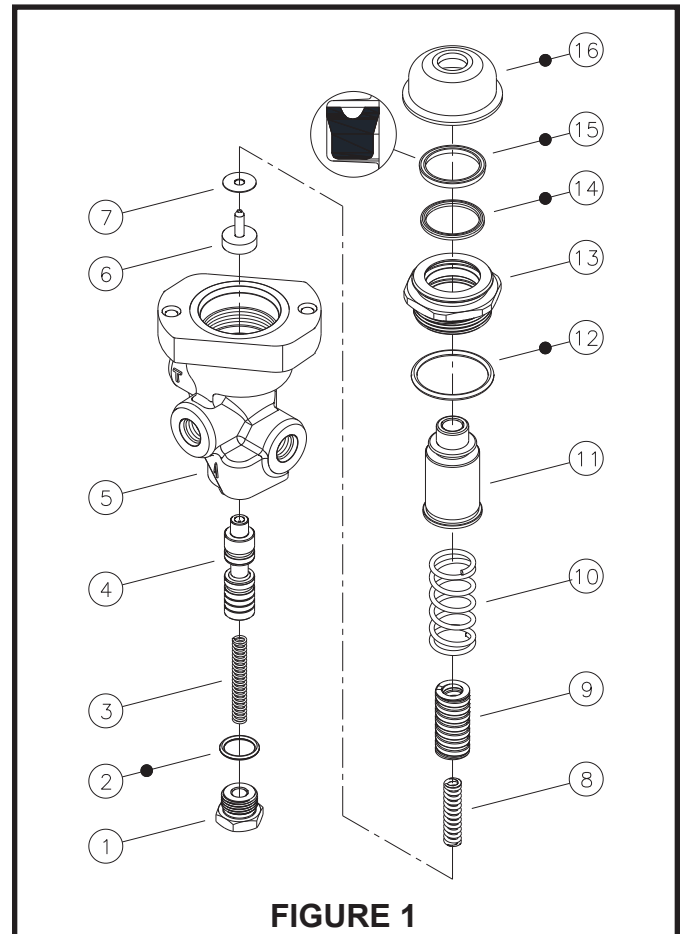

FIGURE 1
(Refer to Figure 1)
Housing (5) and spool (4) are manufactured as a matched set. This set, housing and spool, should not be intermixed with other parts. Housing (5) may appear different than what is shown in Figure 1.
1. Remove boot (16) from retainer (13) and piston (11).
2. Remove retainer (13), piston (11), springs (10, 9, & 8), shim(s) (7), and retainer assembly (6) from housing (5).